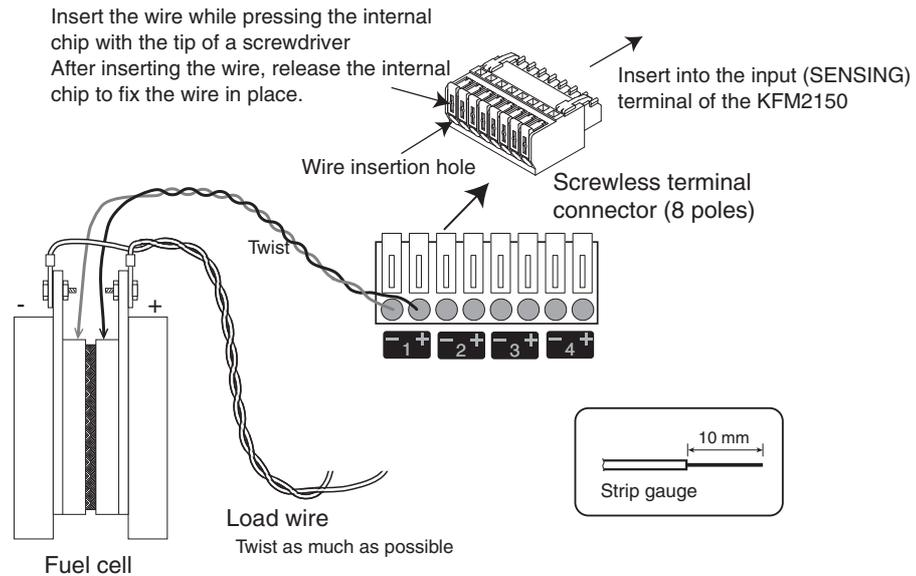

Fig. 3-12 Connection to the fuel cell
2. Using a screwdriver, insert the wire into the screwless terminal connector (8 poles) provided as shown in Fig. 3-12.